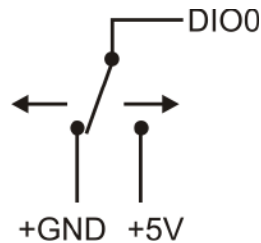

Figure 4. Schematic showing switch detection by digital channel DIO0
When you configure the digital bits for input, you can use the OM-USB-TC-AI digital I/O terminals to detect the state of a TTL-compatible device. Refer to the schematic shown in Figure 4. If you set the switch to the +5V input, DIO0 reads *TRUE* (1). If you move the switch to GND, DIO0 reads *FALSE* (0).